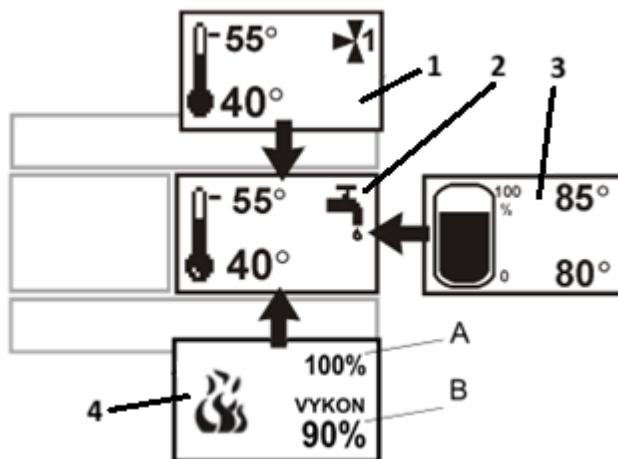

Figure 3 Option to change the display on the right side of the main screen
The window on the right side of the main screen – see Figure 3 – can display various information. Use the “up arrow” and “down arrow” buttons to change the displayed information regarding the mixed heating circuit (1), DHW (2), storage tank (3), or boiler output indicator (4).